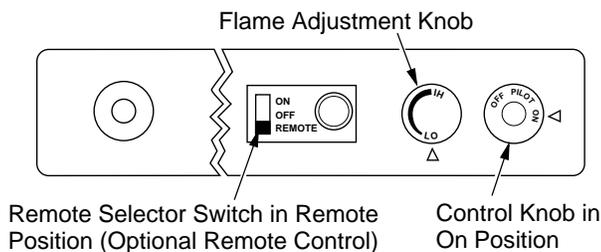

Figure 25 - Setting the Remote Selector Switch, Control Knob, and Flame Adjustment Knob for Remote Operation
1. After lighting, let pilot flame burn for about one minute. Turn control knob to ON position. Adjust flame adjustment knob anywhere between HI and LO. Slide the selector switch to the REMOTE position (see Figure 25, page 15). **Note:** The burner may light if hand-held remote was on when selector switch was last turned off. You can now turn the burner on and off with the hand-held remote control unit.